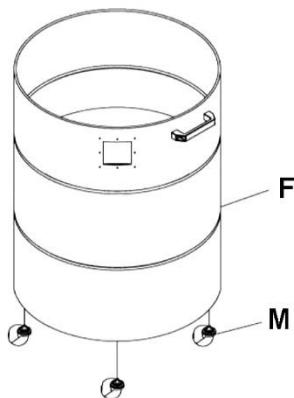

Figure 4
4. Install four casters (M) into the threaded nuts beneath drum (F). See Figure 4.